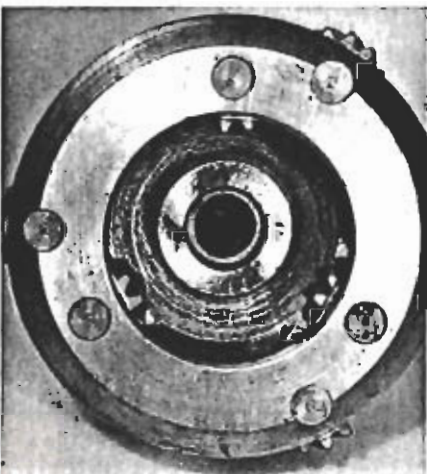

Figure 5 Assemble needle bearing
**STEP 5** Press the needle bearing (27) into bore of carrier assembly. Front face of bearing should be .000-.280 inch (7.1 mm) below carrier bore face, figure 5.